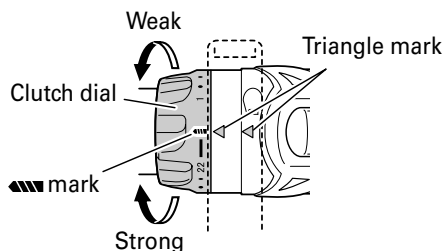

Fig. 10
8. Confirm the clutch dial position (See Fig. 10).
- Tightening torque indication (See Fig. 10)**
- Adjusting the tightening torque (See Fig. 10)**